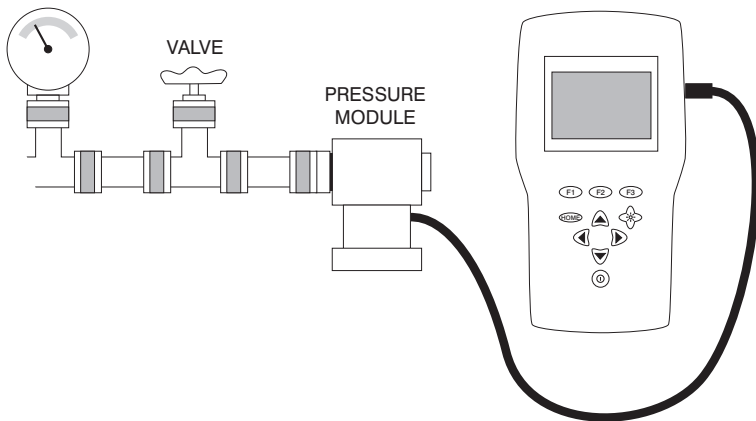

Figure 7. Connections for Measuring Pressure
1. Connect the pressure module to the calibrator as shown in Figure 7.